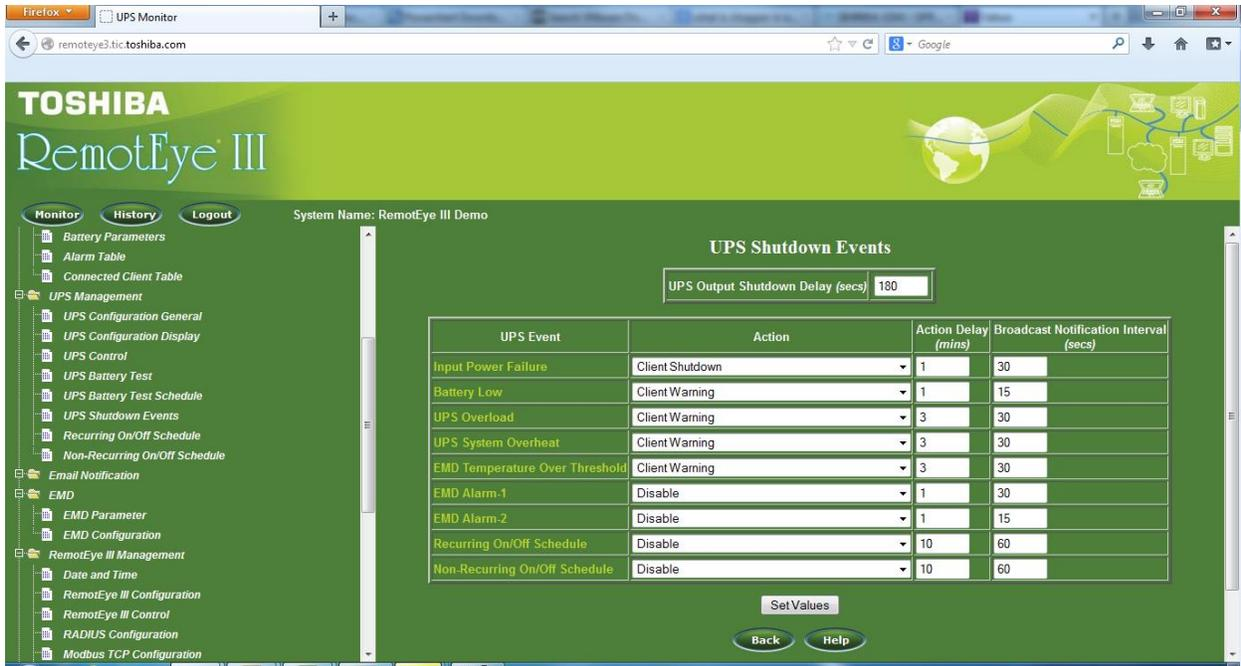

Figure 0-10 RemotEye III UPS Shutdown Events Table
- 18.1.1. In the UPS Shutdown Events table, select the action (Disable, Client Warning, or Client Shutdown) and Shutdown Delay (if applicable), for each event listed in the UPS Event column. (See **and Error! Reference source not found.** and Figure 0-10)